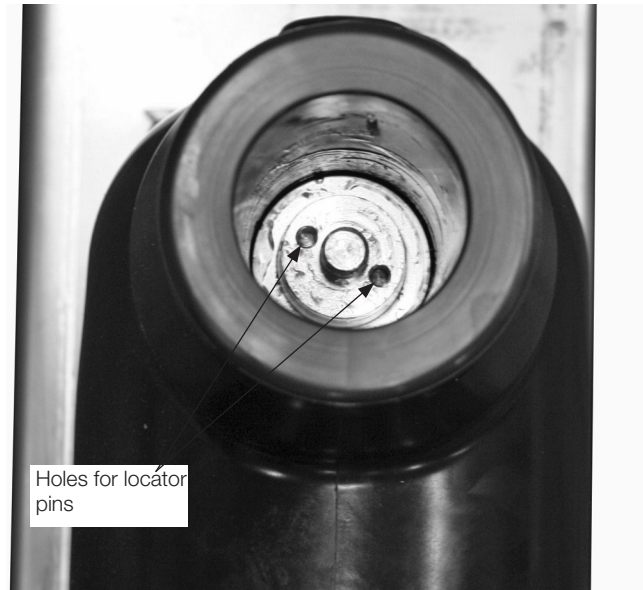

Figure 38. Well adapter in fuse
4. Engage the adapter with the socket; gently rotate the socket as needed to engage the locator pins. Refer to Figure 38.